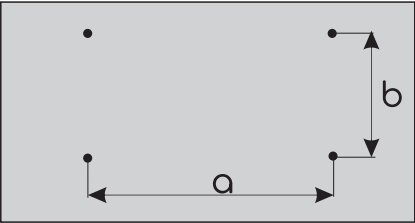

Fig. 1
3. Measure distances "a" and "b" to end the control points (see Fig.1)